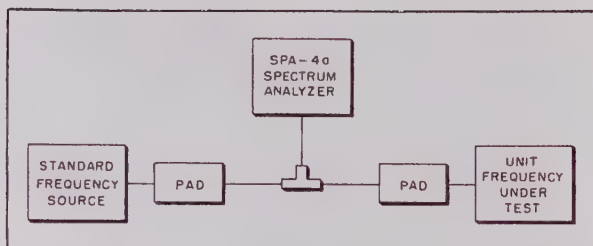

Figure III-21. Visual Frequency Comparison Test Set-up.
1. Connect the test set-up shown in Figure III-21.